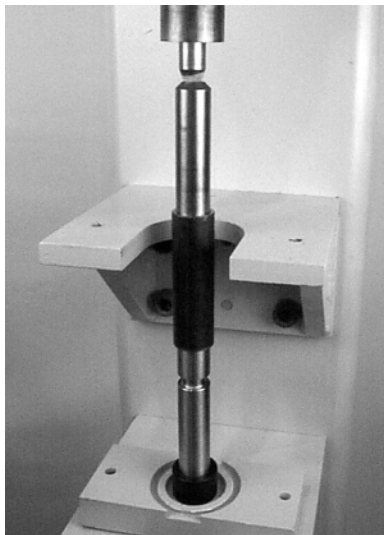

Figure 41
5. Using arbor press or similar device, press bearing onto pulley shaft (see Figure 41).